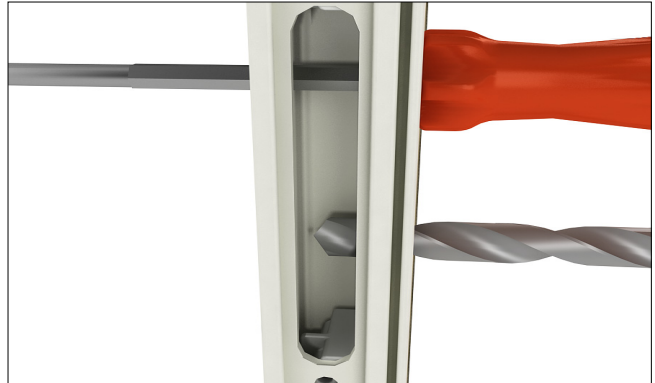

Figure 7
5. Drill a pilot hole with a 1/4" (6) drill bit through the dashed template (exterior Ultrex wall and backer wall) without going through the second wall of Ultrex.
6. Drill out the pilot hole with the 5/8" (16) drill bit (through the Ultrex wall and backer wall) without going through the second wall of Ultrex. See figure 7.